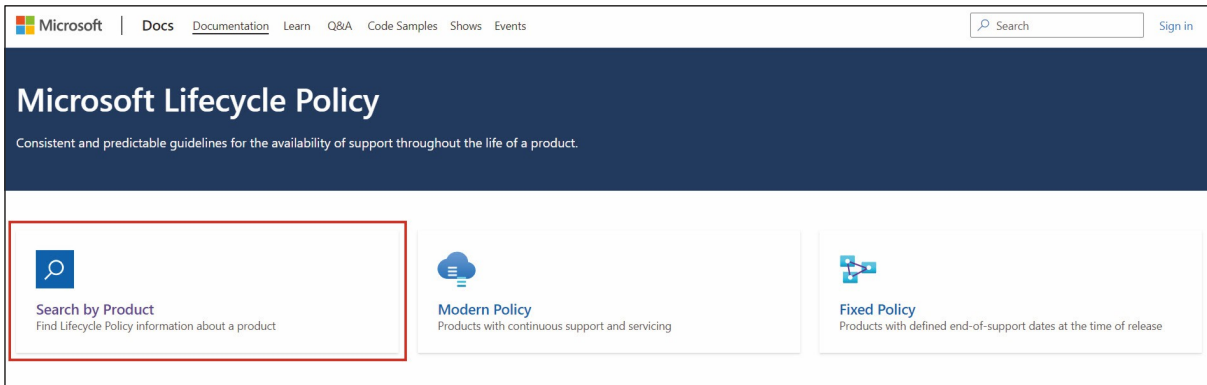

Fig. 2: Search by Product
1. Enter the Search by Product page (see fig. 2).